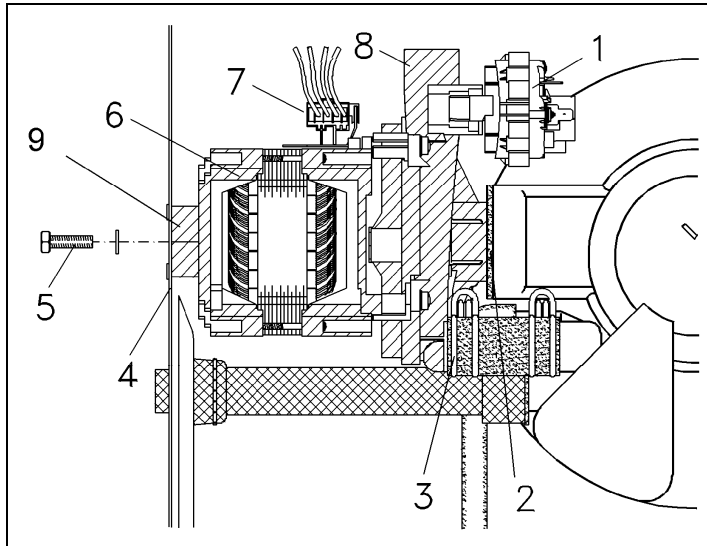

Figure 5-27: Circulation Pump Removal
2. Remove the retaining bolt (Figure 5-27, Item 5) from the casing rear panel (Figure 5-27, Item 4).
5. Disconnect the connection plug (Figure 5-27, Item 7).
7. Release the hose clips (Figure 5-27, Items 3 and 8).
8. Press the rear casing out slightly to remove the spacer (Figure 5-27, Item 9).
9. Loosen the circulation pump (Figure 5-27, Item 6), and remove it.
10. When re-installing, ensure that the pump seal (Figure 5-27, Item 2) is seated correctly. Using a small amount of rinse aid may help in getting the seal positioned correctly. Do not use liquid detergent, as this will cause an oversudsing condition.